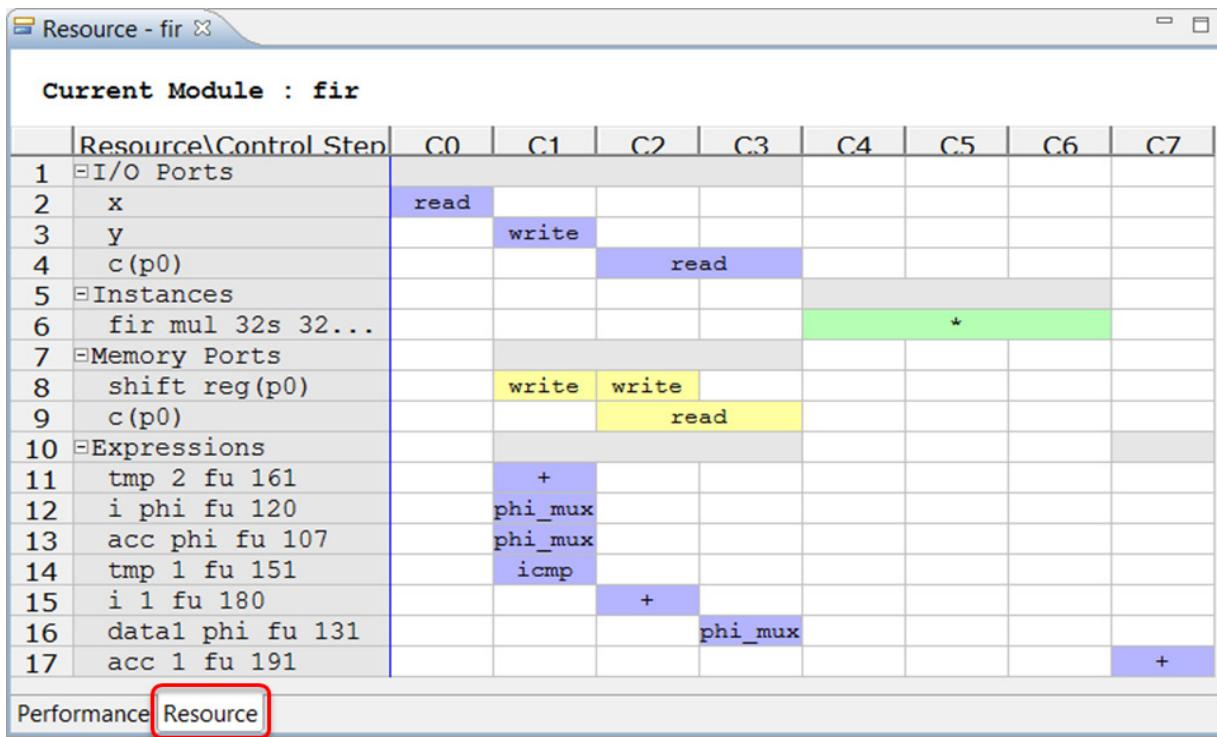

Figure 2-26: Solution2 Analysis Perspective: Resource
3. Click the **Resource** view, as shown in Figure 2-26.
4. Expand all the resource groups (also shown in Figure 2-26).